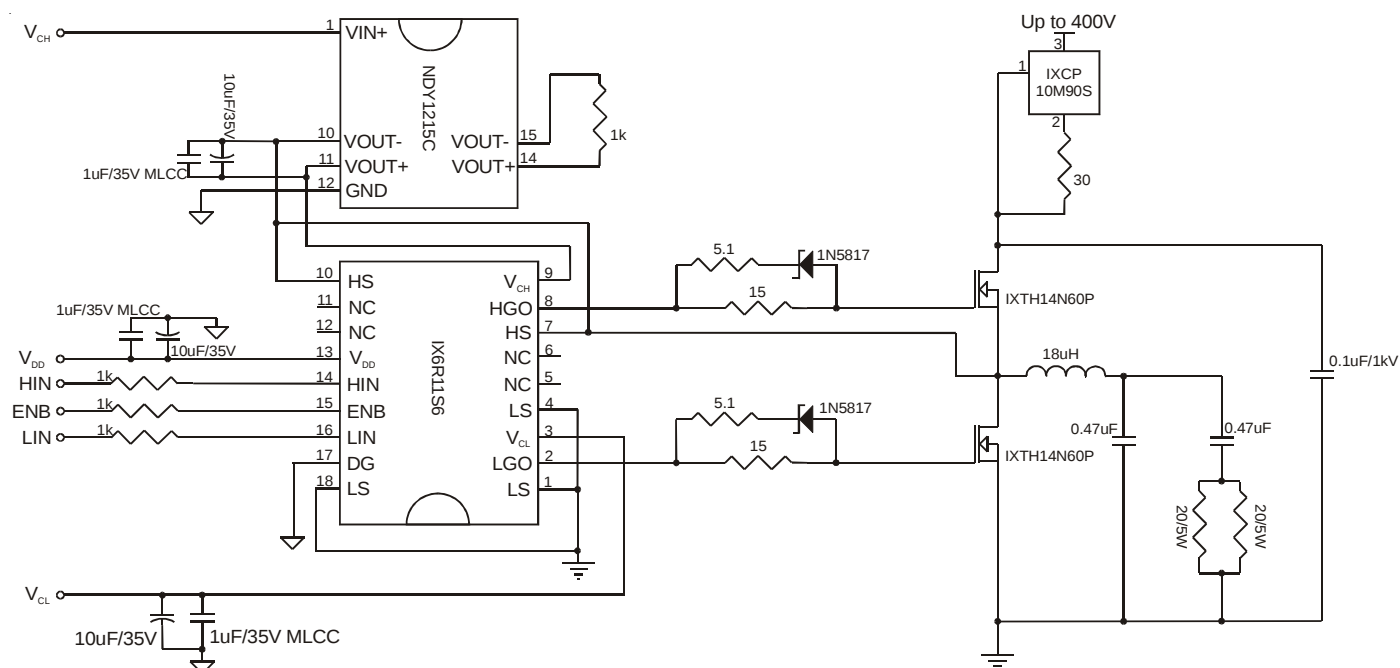
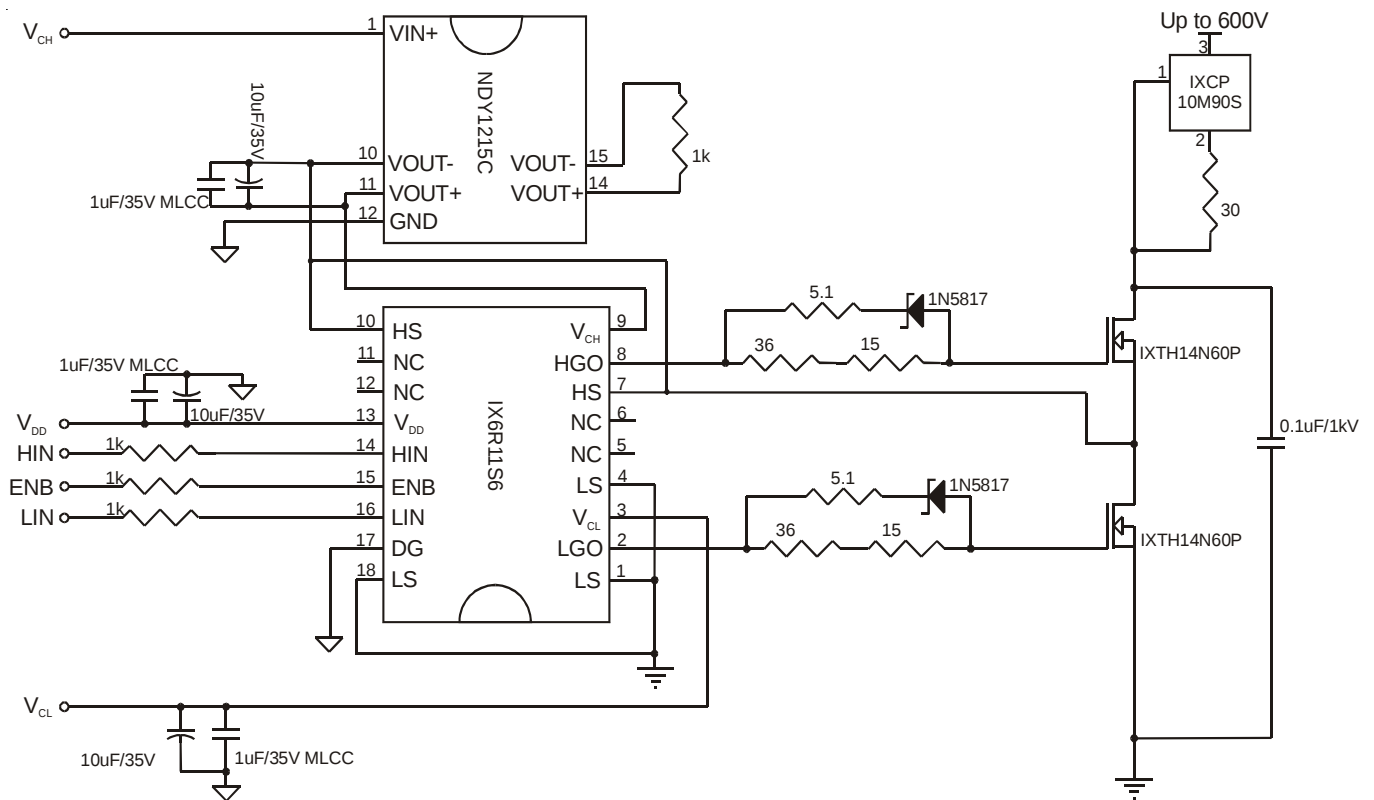

Figure 10. Test circuit for high frequency, 750kHz, operation.
Figure 11. Test circuit for low frequency, 75kHz, operation.
*Operational voltage rating of 600V determined in a typical half-bridge circuit configuration (refer to Figure 10 and Figure 11).
Tested in typical circuit configuration (refer to Figure 10 & 11)